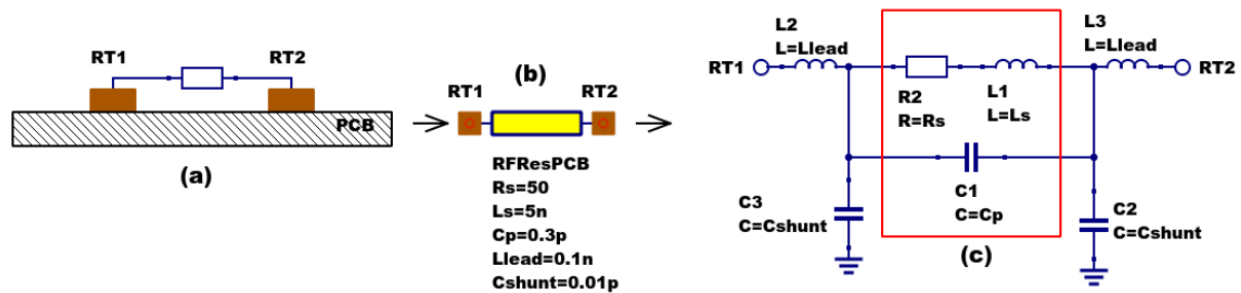

Figure 2 - PCB mounted resistor: (a) axial component mounting, (b) Qucs symbol and (c) equivalent circuit model.
The schematic symbol, I/V equation and parameters of the Qucs linear resistor model are shown in Figure 1. In contrast to this model Figure 2 illustrates the structure of a printed circuit board (PCB) mounted metal film (MF) axial RF resistor (a), its Qucs schematic symbol (b) and its equivalent circuit model (c). A thin film surface mounted (SMD) resistor can also be represented by the model shown in Figure 2 (c).
At signal frequencies where the largest dimension of an axial or SMD resistor is less than approximately 20 times the smallest signal wavelength a resistor can be modelled by a lumped passive circuit consisting of a resistor **Rs** in series with a small inductance **Ls** with the combination shunted by parasitic capacitor **Cp**. In Figure 2 **Rs** is the nominal value of resistor at its parameter extraction temperature **Tnom**, **Ls** represents the inductance associated with **Rs** where the value of **Ls** is largely determined by the trimming method employed during component manufacture to set the value of **Rs** to a specified tolerance. Similarly, capacitor **Cp** models a parasitic capacitance associated with **Rs** where the value of **Cp** is a function of the physical size of **Rs**. At RF frequencies it is important, for accurate operation, to add lead parasitic elements to the intrinsic equivalent circuit model shown within the red box draw in Figure 2. In Figure 2 **Llead** and **Cshunt** represent resistor series lead inductance and shunt capacitance to ground respectively.
A typical set of model parameters for a  $51 \Omega$  5 % MF axial resistor are (1) **Ls** = 8nH, **Cp** = 1pF, **Llead** = 1nH and **Cshunt** = 0.1pF. Illustrated in Figure 3 is a basic S parameter test bench circuit for measuring the S parameters of an RF resistor over a frequency range 1 MHz to 1.3 GHz. This example also demonstrates how the real and imaginary parts of a resistor model impedance can be extracted from S parameter simulation data. The graphs in Figure 3 clearly demonstrate that the impedance of the typical MF RF resistor described in previous text and modelled by the equivalent circuit shown in Figure 2 is a strong function of frequency at higher frequencies in the band 1 MHz to 1.3 GHz.
Figure 8 - Qucs device model parameter extraction system applied to a nominal 47  $\Omega$  resistor represented by the subcircuit model illustrated in Figure 2 (c). Fixed model parameter values:  $R_s = R_m = 47.3 \Omega$ ,  $C_{Shunt} = 0.08\text{pF}$ ; Optimised values:  $L_s = L = 10.43\text{nH}$ ,  $L_{lead} = LL = 1.47\text{nH}$ ,  $C_p = C = 0.69\text{pF}$ . To reduce simulation time the ASCO cost variance was set to  $1\text{e-}3$ . The ASCO method was set to DE/best/1/exp.
Figure 11 - Qucs device model parameter extraction system applied to a nominal 1000  $\Omega$  resistor represented by the subcircuit model illustrated in Figure 2(c).
Figure 13 - Qucs device model parameter extraction system applied to a nominal  $100\ \Omega$  SMD resistor represented by the subcircuit model illustrated in Figure 2 (c).
Listed below is an example Verilog-A code model for the RF resistor model introduced in Figure 2 (c). Due to the limitations of the Verilog-A language subset provided by version 2.3.4 of the "Analogue Device Model Synthesizer" (ADMS)4 inductors **Ls** and **Llead** are modelled by gyrators and capacitors with values identical to **Ls** or **Llead**.